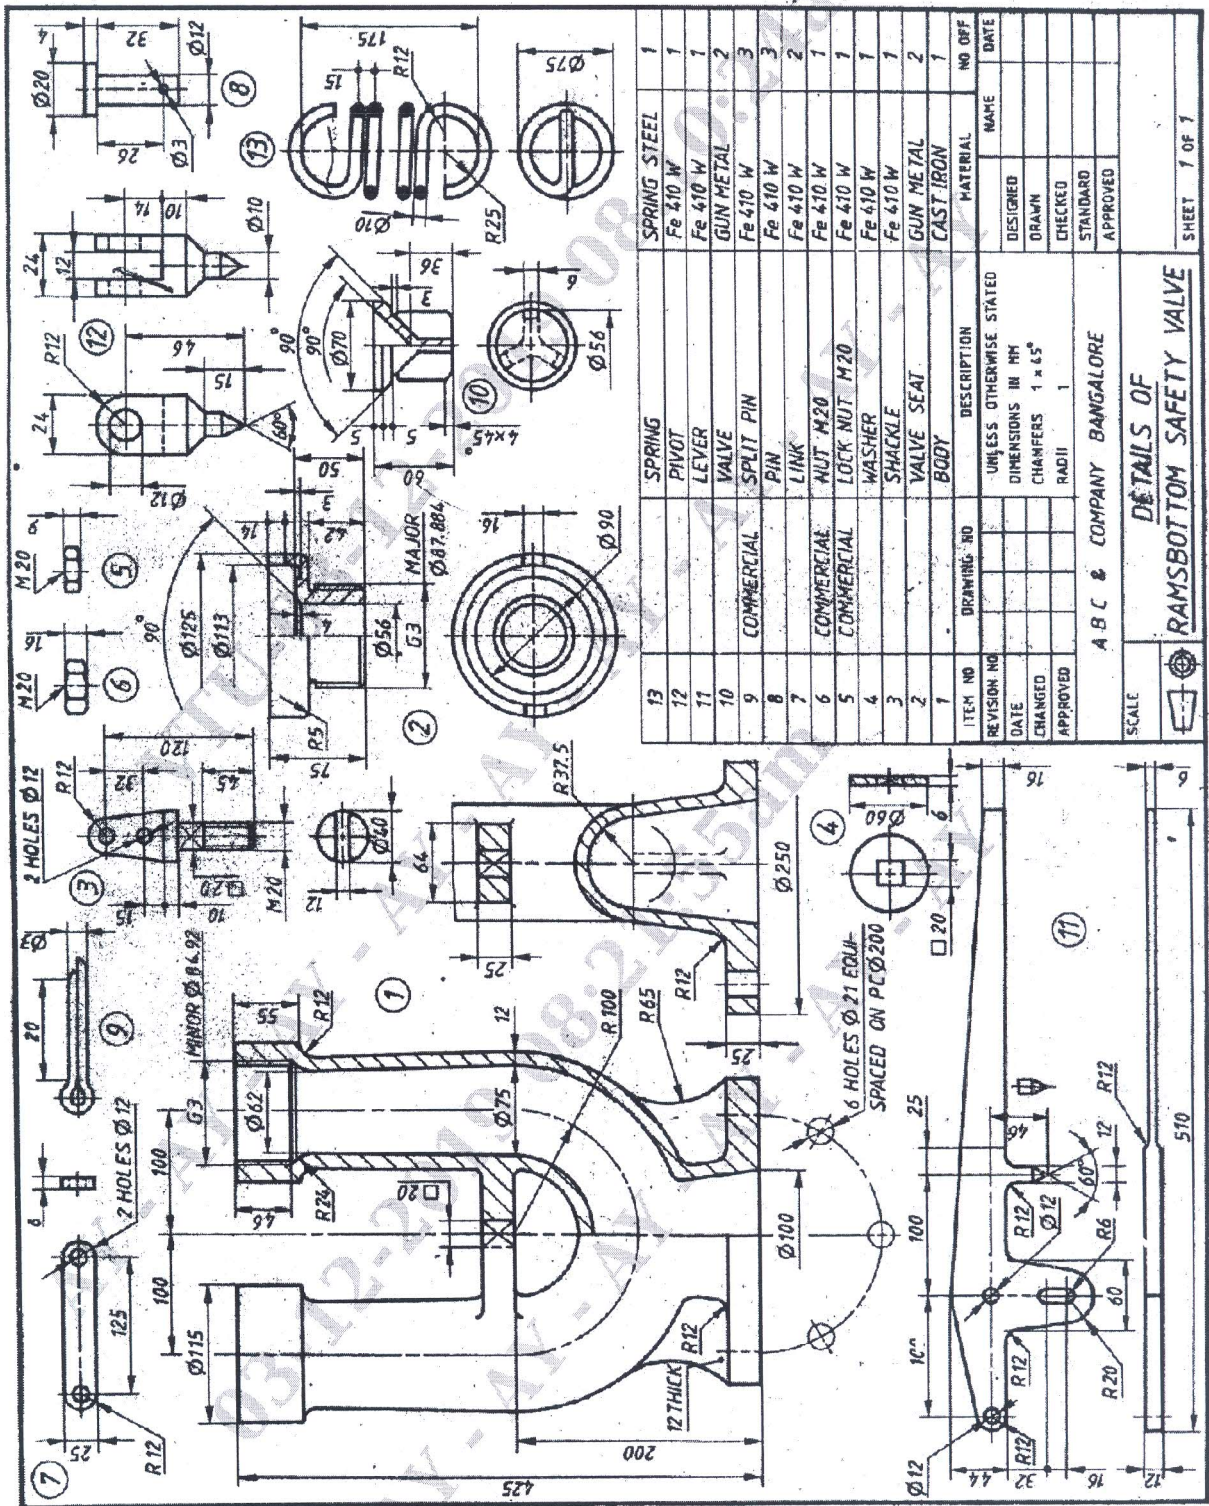

Figure 2 : Rams Bottom Safety Valve
- Q.No.6** Figure 2 shows the part drawing of a "RAMS BOTTOM SAFETY VALVE". Assemble parts and show the following views.